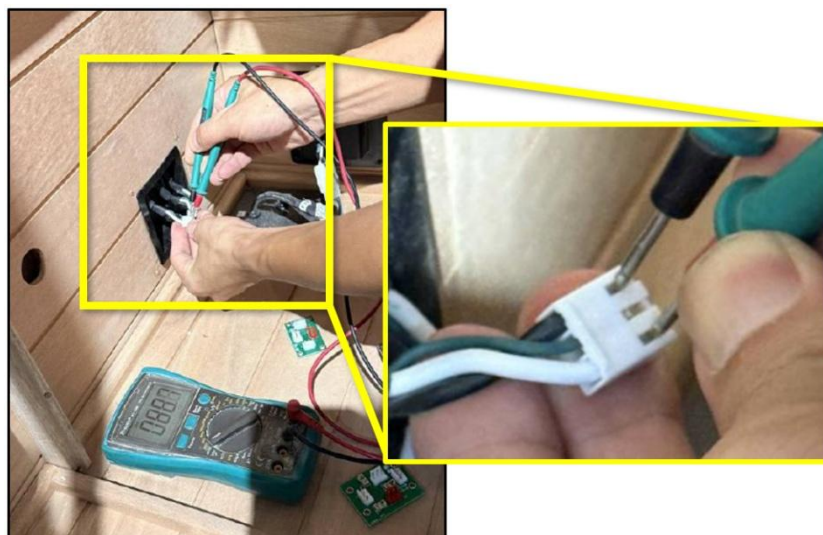

Figure 6. Use a digital multimeter to measure the resistance (Ohms – Ω) of each panel.
- 4.2.1. After removing the cover from the first distribution box, unplug the power supply connector (red connector) and use the multimeter on the black and white wires of the exposed red power supply connector to verify that no voltage (Volts - V) is present and the sauna has been disconnected from external power (Figure 6 for example of multimeter usage).
- 6.2. For each panel wire connector, one at a time, measure the panel resistance (Ohms - Ω) using a multimeter by touching the outer pins of each wire connector (black and white wires, Figure 6). Note what number the connector has been marked with (1, 2, or 3).
- 6.5.1. Before plugging each panel wire connector into the new circuit board, double-check the resistance of each panel for accuracy (black and white wires, Figure 6) and make sure you installed the appropriate-size fuse for the resistance measured for that panel (consult the chart).
- 9.3. After unplugging each floor panel wire connector, one at a time, measure the resistance (Ohms - Ω) by touching the outer pins of each connector (black and white wires, see Figure 6).
13.1.2.1. Unplug the panel connector wire from the main power box connection wire. Measure the resistance (Ohms - Ω) of the panel by touching the outer pins of the panel connector wire to determine the appropriate fuse size (black and white wires, Figure 6).